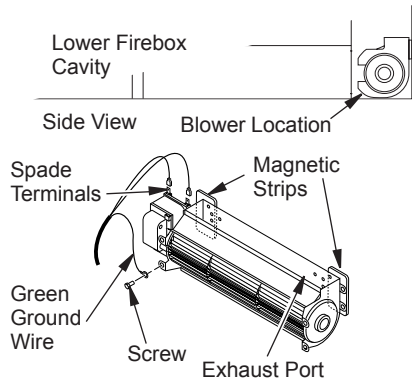

Figure 26 - Blower Model BK
1. Attach the power cord to the blower motor by firmly pushing the two female terminals at the end of the power cord onto the two spade terminals on the blower motor (see Figure 26).
2. Attach green ground wire from power cord to blower housing using screw provided (see Figure 26). Tighten screws securely.
3. Place the blower against the lower wall of the firebox outer wrapper with the exhaust port directed upward. The blower will fit inside the back opening and be held in position against the back wall by the magnets (see Figure 26).